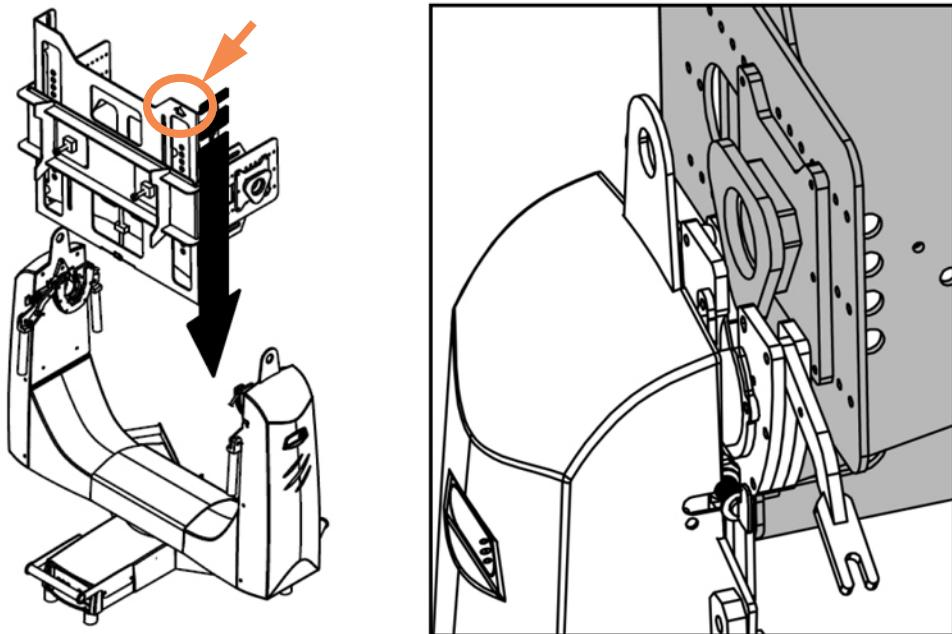

Figure 3-21 Mount Bracket onto Yoke
2. Rotate the bracket until the arrow on the bracket (circled in **Figure 3-21**) points upward and slide the Quick Lock plates into the yoke. The arrow on the bracket also indicates where the lens end of the projector will be located.